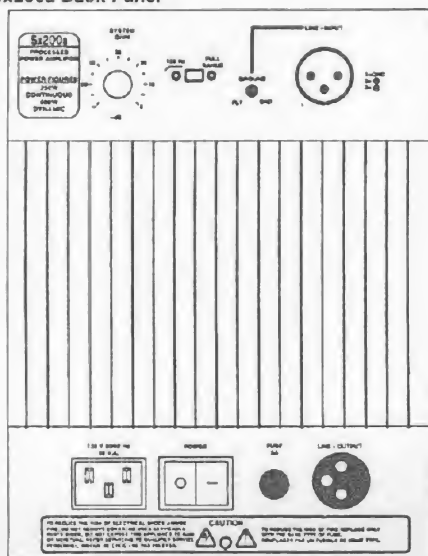
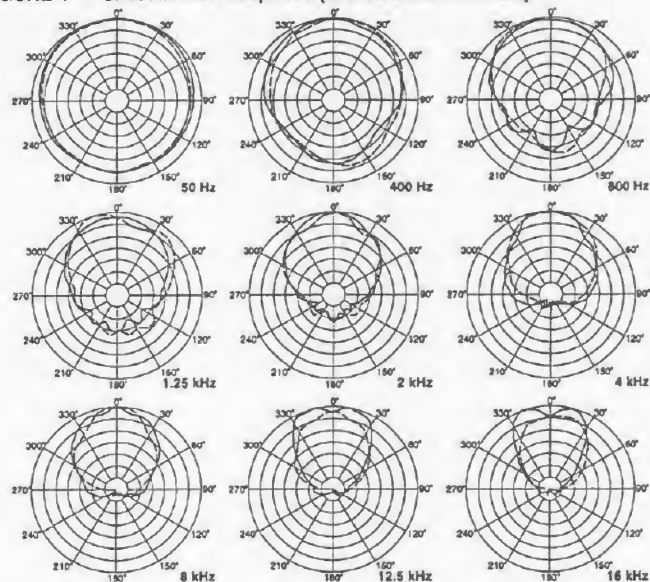
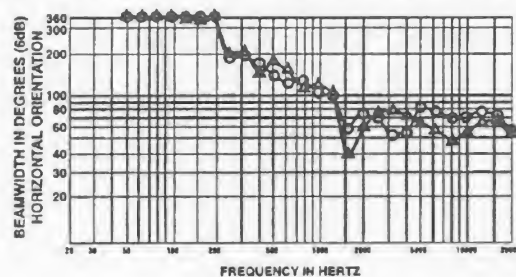

FIGURE 4 — Sx200a Polar Response (anechoic environment)
FIGURE 5 — Sx200a Beamwidth Response (anechoic environment)
FIGURE 6 — Sx200a Directivity Response (anechoic environment)
Dispersion Angle Included by 6-dB-Down Points on Polar Responses, Indicated One-Third-Octave Bands of Pink Noise (see Figure 4),
Directivity Factor R_a (Q), 800- to 16,000-Hz Median (see Figure 6):
Directivity Index D_i, 800- to 16,000-Hz Median (see Figure 6):
A unique feature of the Sx200a is the constant-directivity dispersion provided by the 65° x 65° horn. The polar response of the system at selected one-third-octave bandwidths is shown in Figure 4. These polar responses were measured in an anechoic environment at 10 feet using one-third-octave pink-noise inputs. The frequencies selected are fully representative of the polar response of the system. Beamwidth of the system utilizing the complete one-third-octave polar data is shown in Figure 5. R_s and directivity index (Di) are plotted in Figure 6.
The first approach is to suspend an individual Sx200a enclosure. Electro-Voice recommends the use of the Mb200 bracket (see Figure 4), which encompasses the top and bottom of the enclosure and has additional features to make suspending the Sx200a easier and more flexible. The Mb200 has supplementary holes to allow the Sx200a to be attached to a wall or ceiling and aimed at an audience.